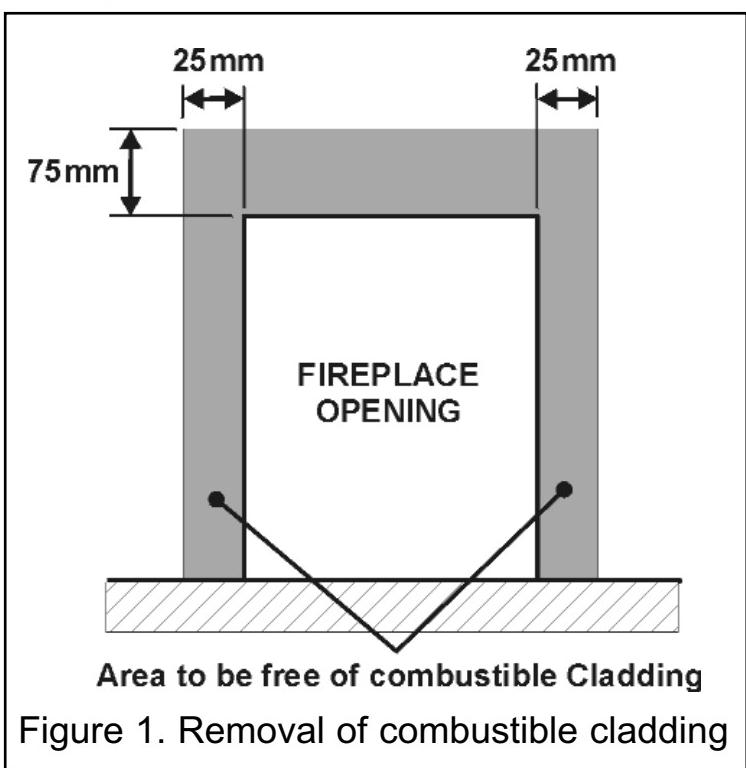

Figure 1. Removal of combustible cladding
**3.7.3** If the appliance is to be fitted against a wall with combustible cladding, the cladding must be removed from the area shown in figure 1.